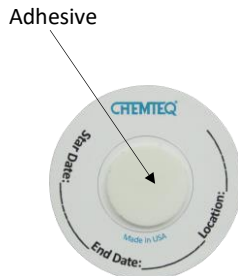

Figure 3
- e. Record start date and location on the back of the area monitor (Figure 3)